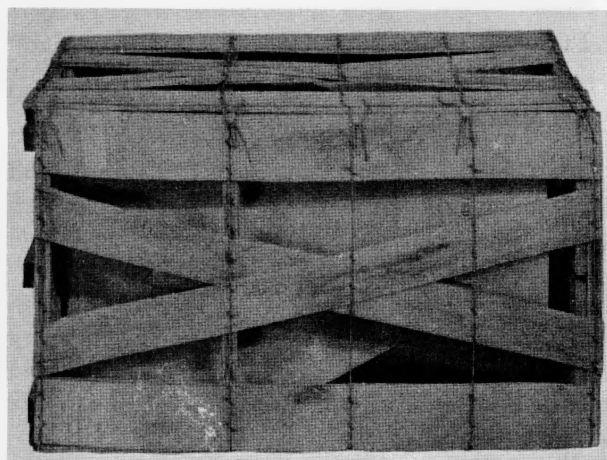

Figure 9. M14 tail fin assembly in shipping crate.
b. M14 Tail Fin Assembly. The M14 tail fin assembly is shipped in a wirebound wood crate (fig. 9); it may be shipped as an inert component.